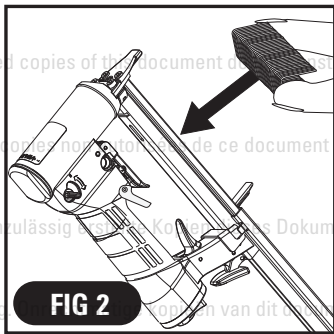

FIG 2
2. Drop staple stick into magazine. (Fig 2)